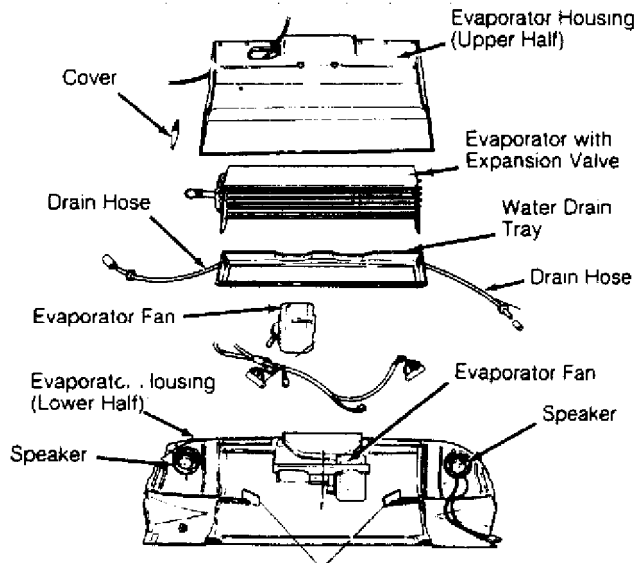

Fig. 10: Exploded View of Evaporator Assembly (Vanagon)
3) Support evaporator housing. Remove left and right side evaporator housing mounting screws. Lower evaporator housing. Remove evaporator housing covers. Remove evaporator. See Fig. 10. To install, reverse removal procedure. Evacuate and recharge system.